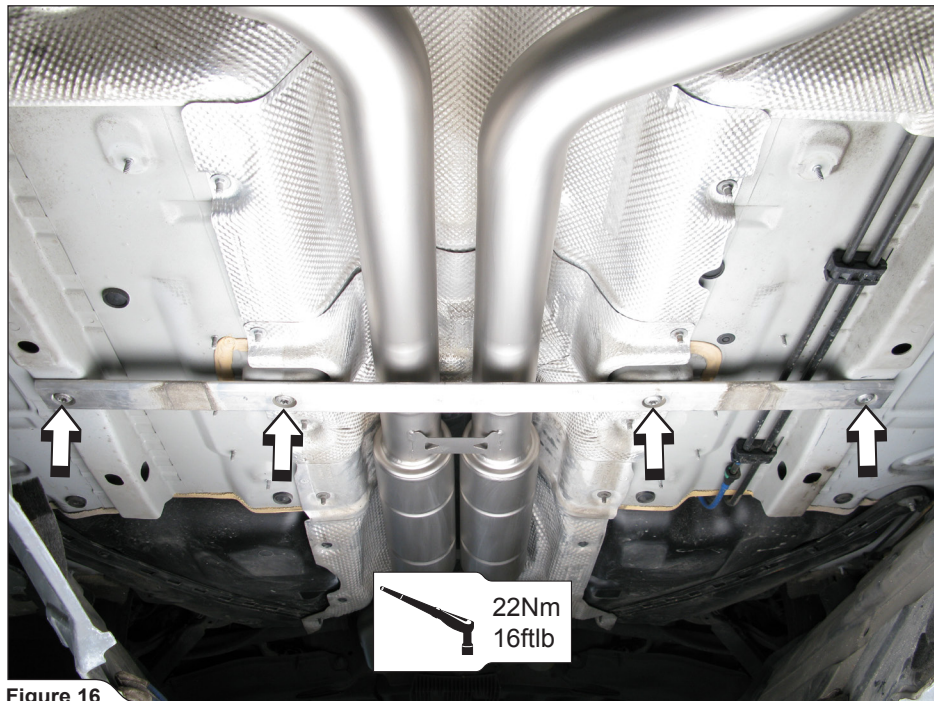

Figure 16
4. **For Evolution only:** reattach the chassis reinforcement (**Figure 16**).